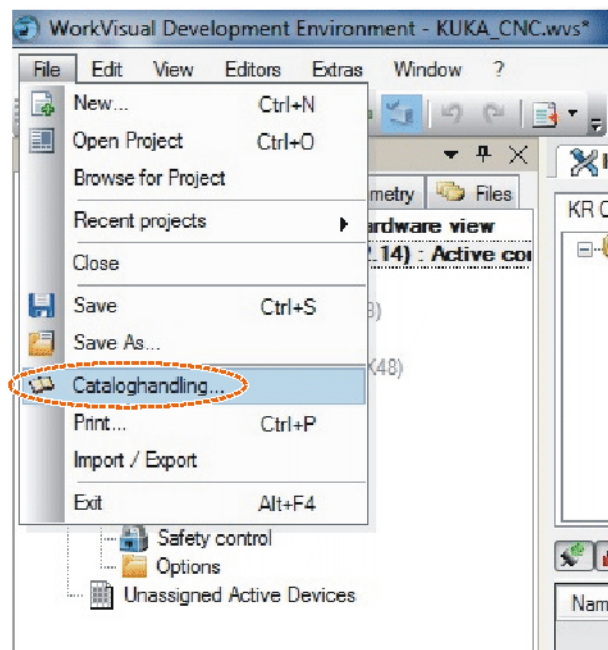

Fig. 6-4: Opening catalog handling
4. Open catalog handling (>>> Fig. 6-4).